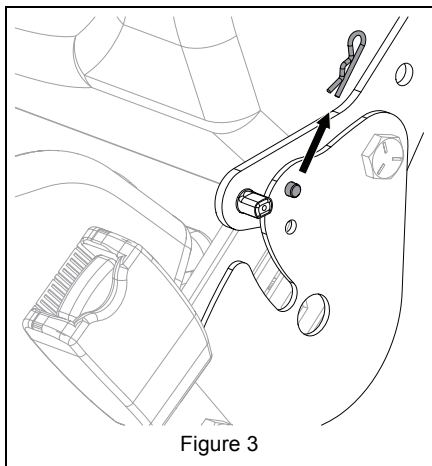

Figure 3
- a. Remove hairpin from clevis pin and remove clevis pin from seat cushion bracket. See Figure 3.